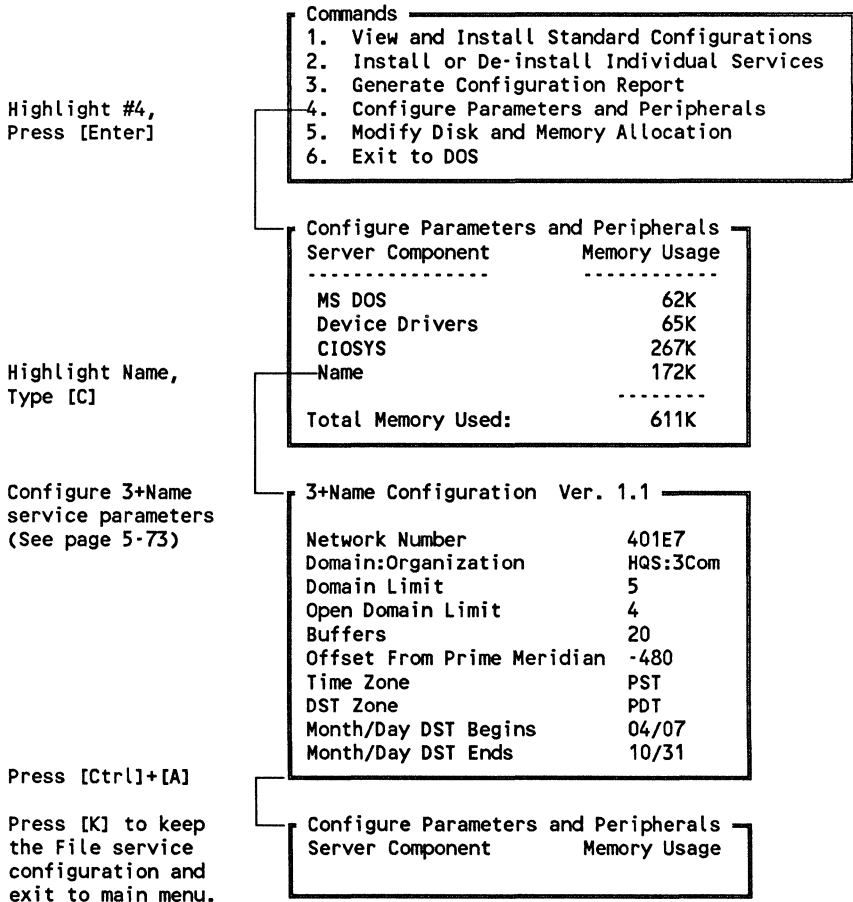

Figure 4-1. How to Adjust 3+Name Service Parameters
- ▶ Fill in the network number and/or change the time zone parameter values that have been preset to Pacific Standard Time; these are Name service parameters (see Figure 4-1).